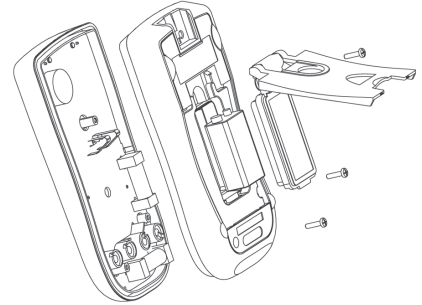

Figure 12
A. Replacing the Battery (See Figure 12)